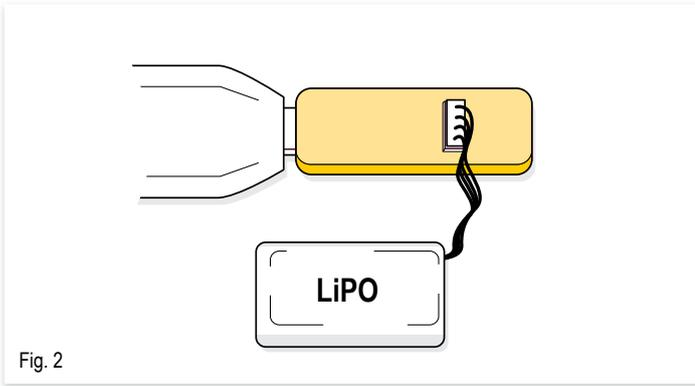

Fig. 2
1. Connect the supplied USB LiPo charger (18) to a suitable adapter.
3. Connect the supplied flight battery (15) to the charger socket (17). Observe the plug contour for this. If the battery is not defective (high-ohmic/interrupted) and mains supply is present, charging commences. See [Fig. 2].